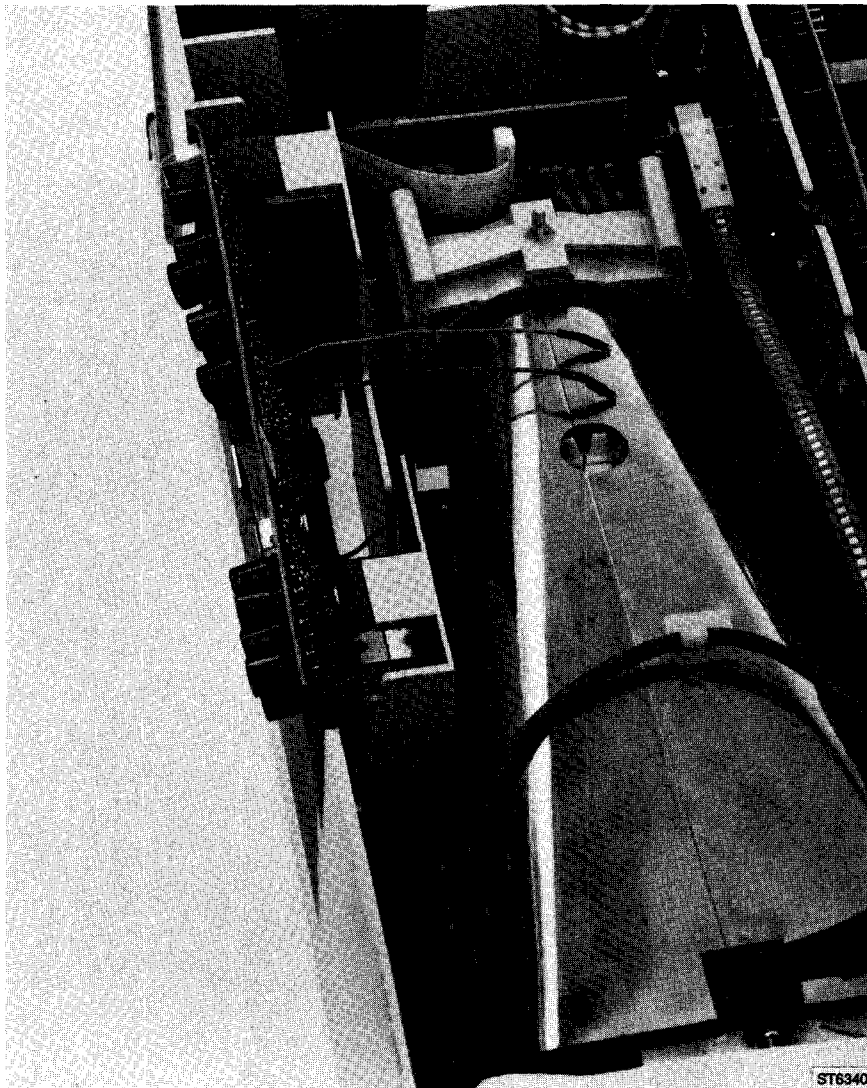

Figure 8.4 Final XYZ amplifier in inclined position
*NOTE: The unit can be toppled over. The SMD component side is accessible now and can be measured in working condition after reinstallation of the blue ribbon cable. Figure 8.4 shows this.*